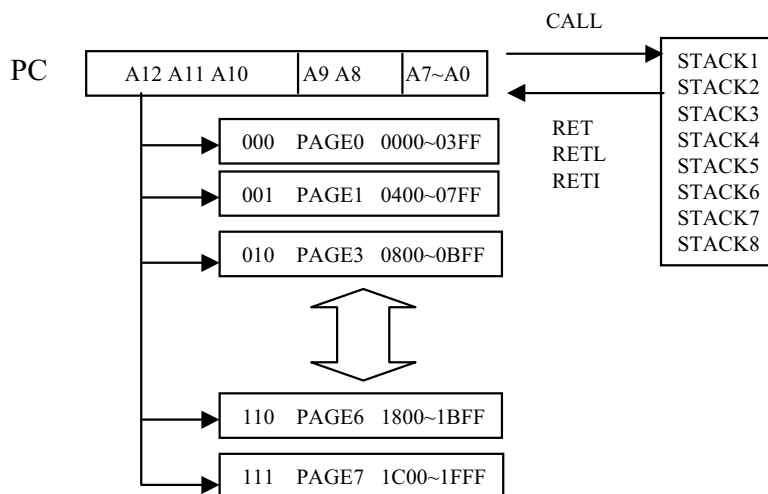

Fig.3 Program counter organization
- * The structure is depicted in Fig.3